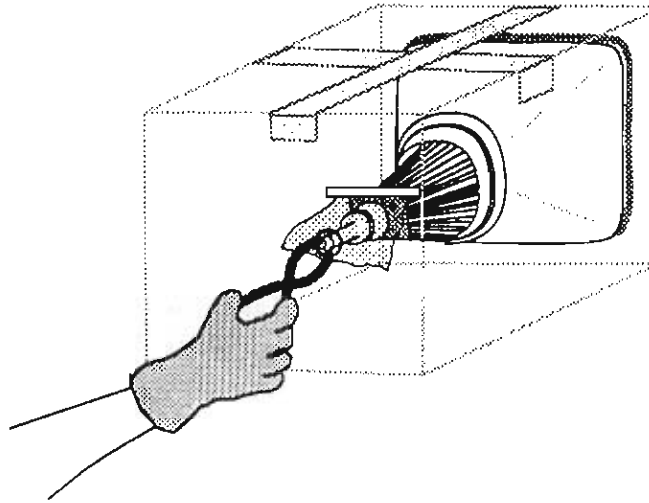

FIGURE 11
6. Tape the piece of cloth or paper onto the box (Figure 11, #1) so that it forms a veil over the opening (Figure 11, #2) but allows your hand access to the tip of the CRT. The veil's purpose is to catch the bits of glass that may fly during the following step.